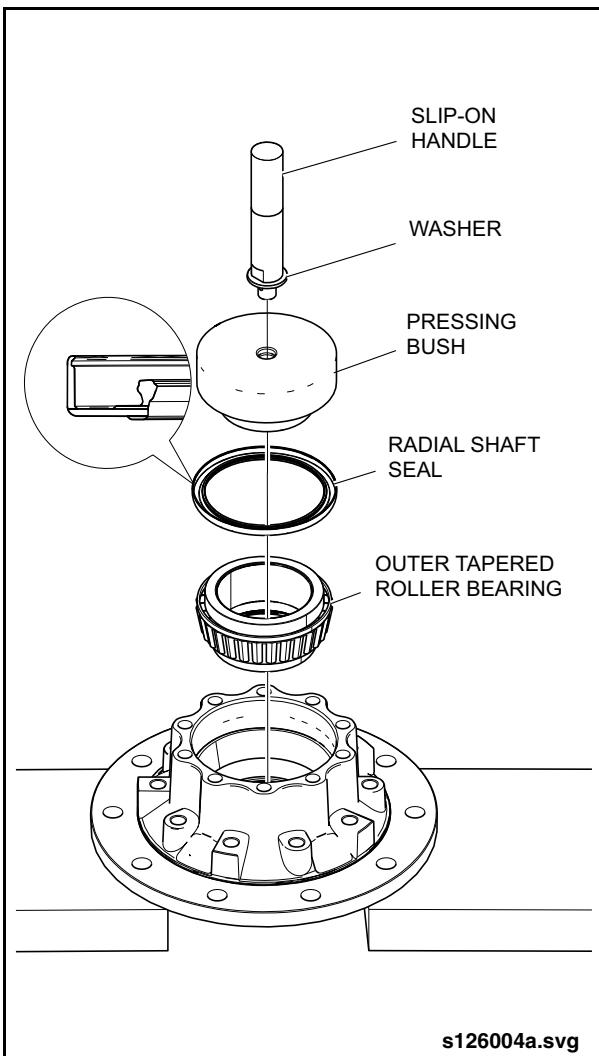

Fig. 2-27: Installing Outer Tapered Roller Bearing
1. Insert the tapered roller bearing into the wheel hub. See "Fig. 2-27: Installing Outer Tapered Roller Bearing" on page 29.